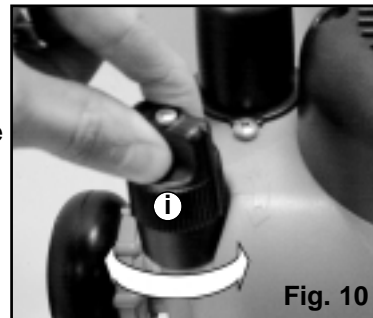

Fig. 10
2. Turn the Micro Adjuster Knob (i) clockwise to increase cut depth and anti-clockwise to reduce cut depth. **Fig 10. Important:** When reducing cut depth turn the micro-adjuster one extra full turn, then turn it back to the desired setting to take up any free play.